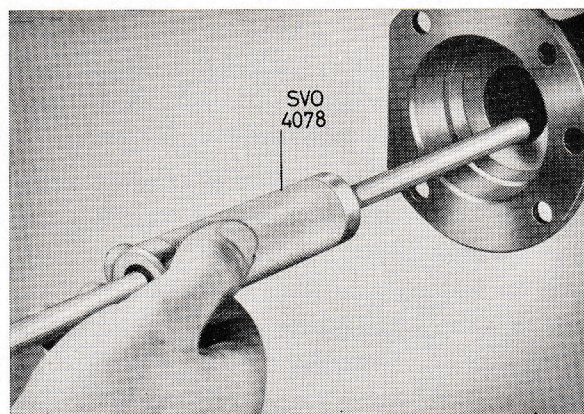

Fig. 3. Removing the seal ring.
3. Pull out the seal ring by using tool SVO 4078 (Fig. 3).